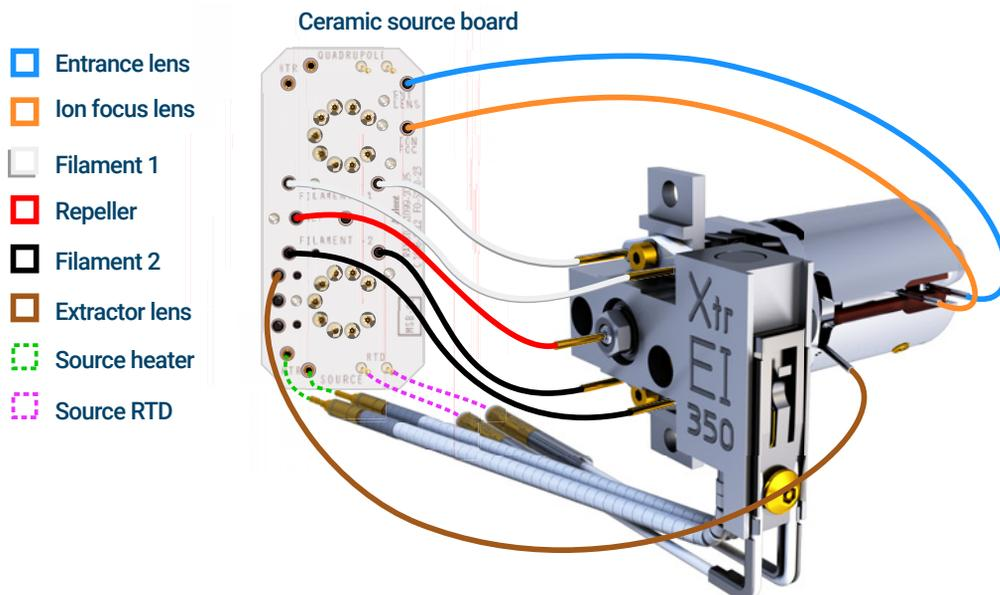

Figure 49. Wiring for the EI XTR
- 2 Use tweezers or pliers to connect or disconnect the source heater wire leads at the ceramic source board (CSB). (See **Figure 49**.)